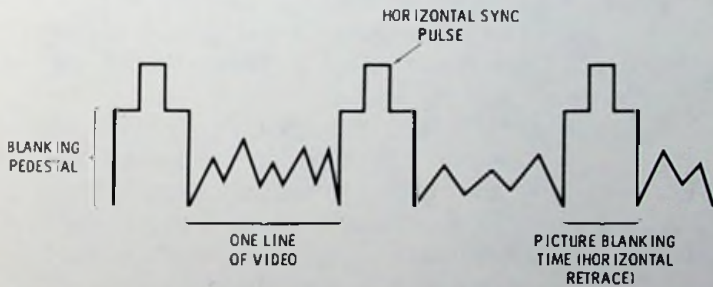
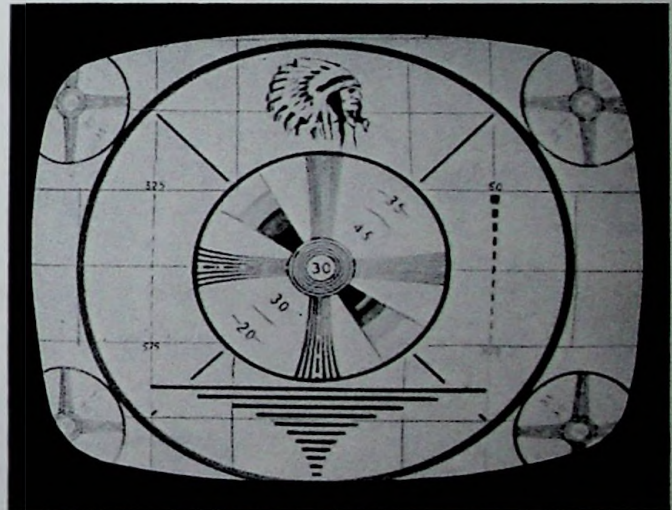

Fig. 4-1. Composite video signal.
Fig. 4-2. A perfectly synchronized picture.
Shown in Fig. 4-1 is a composite video signal (see Chapter 2). Note that at the end of each line of broadcast video (picture) signal there is a sync pulse. The purpose of this pulse is to keep the receiver horizontal sweep system in precise synchronization with the station as shown in Fig. 4-2.
(1) cut off by the high level of the blanking pedestal (Fig. 4-1), (2) caused to retrace to the left side of the screen, and then (3) swept to the right of the screen producing picture information. These functions are produced by the horizontal circuits and synchronized with the broadcast studio via the horizontal sync pulse and blanking pedestal.